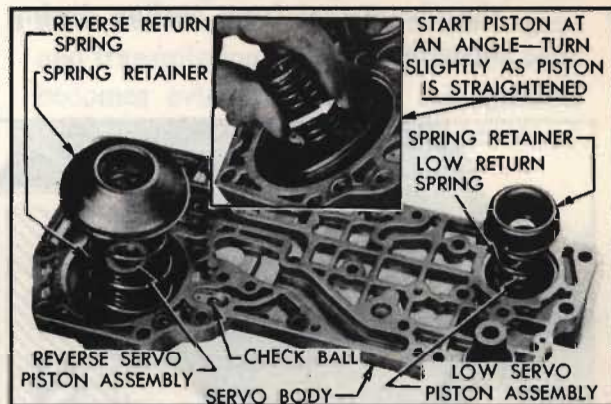

Fig. 50. Parts installed in servo body
the reverse servo feed passage (Fig. 50).
1. Lubricate the low and reverse servo pistons. Install in servo body by tilting piston as it is inserted then rotating slightly as it is straightened (Fig. 50). This method will prevent the piston seal from curling during installation.
3. Install the reverse servo return spring with the large end against the reverse servo piston. Install the spring seats on the upper ends of both springs (Fig. 50).
4. Place the ball check in the reverse servo feed channel (Fig. 50).